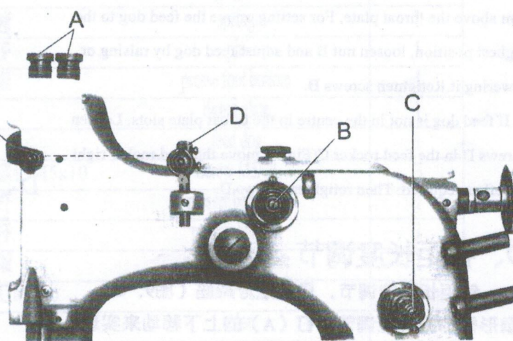

图 10
压脚压力的大小，取决于缝料的厚度，缝薄料时须减少压力；反之，则增大压力。当缝料推送顺畅，针迹均匀时切勿再增大压力，以减缓机件磨损。调节压力时旋进两只调压螺套（图10，A）可增大压力，旋出则减少压力。
缝线张力由夹线器（图10，B、C）
Thread tension is adjusted by thread tension assembly (B,C. Fig.10), tension of upper thread (B) is generally stronger than that of lower thread (C). Turn in thread tensioner nut (B, C) to increase the tension, turn it out to decrease the tension. if the stitch is still not good, the height of thread adjusting bar (D) should be adjusted. The height of the thread adjusting bar (D) is at the same level with the thread eye of the needle bar connection at its highest position.